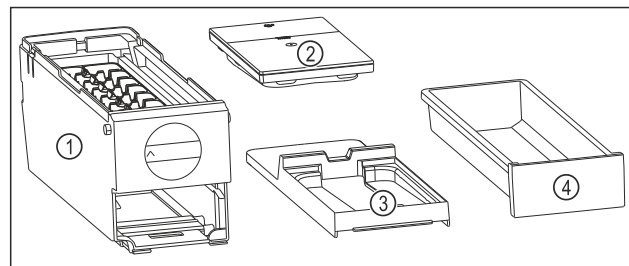

Fig. 76 Components of the EasyTwist-Ice
- ▷ EasyTwist-Ice is dismantled into four parts. (see Fig. 76)
- Only dismantle the EasyTwist-Ice into the components shown. (see Fig. 76)
- Clean the EasyTwist-Ice body Fig. 76 (1) as a whole.